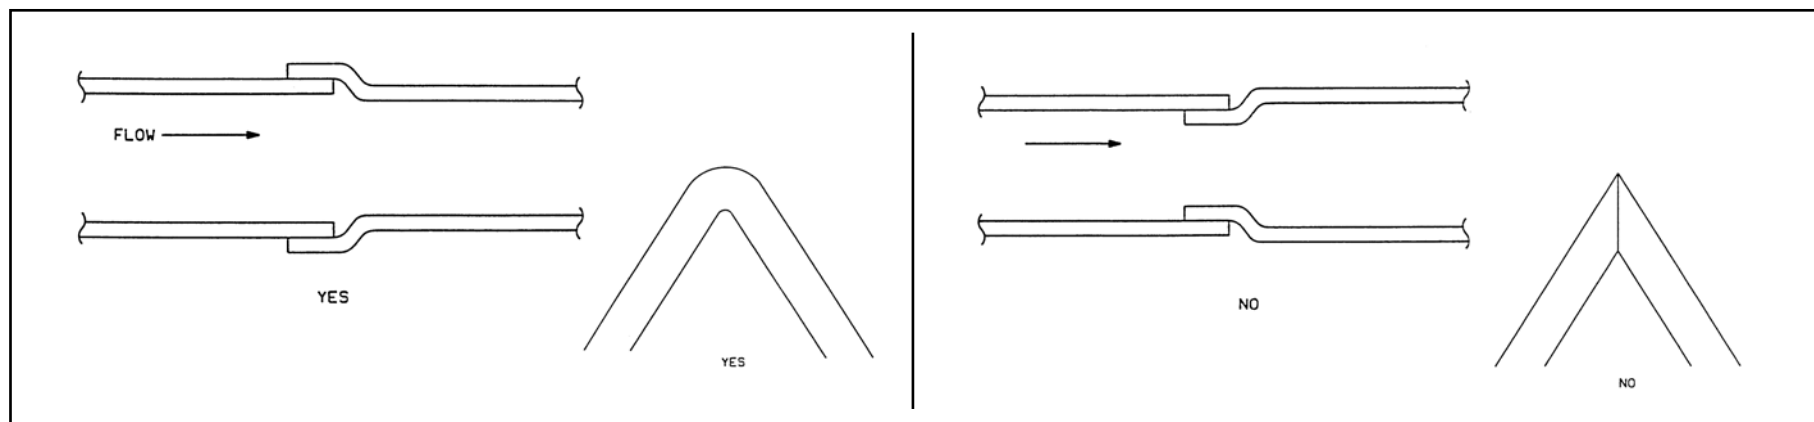

Figure 34
- When conversion is complete, check for leaks and restrictions in the exhaust system (Figure 34). Repair as required.